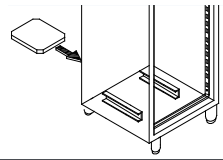

Figure 3
- Slide into the appropriate runners on the lower part of the refrigerator, the condensation waste tray and for appliances which have automatic trays, connect the connector. (Fig. 3)